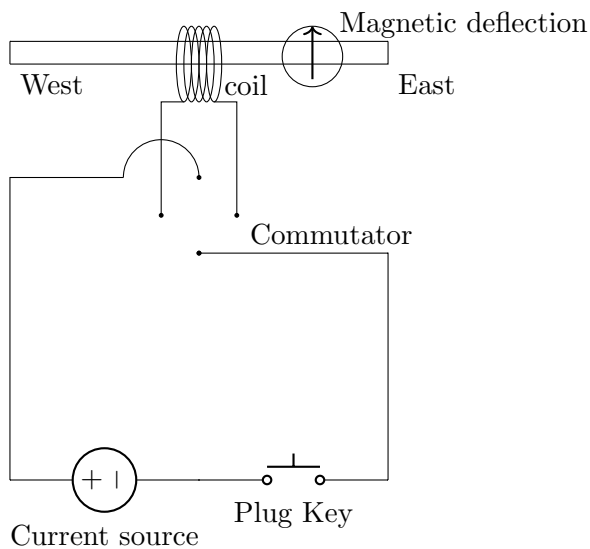

Figure 8.1: Experimental setup for the measurement of field along the axis of a current carrying coil.
1. Use the given compass box to find the east and west directions. Now the plane of the circular coil is said to be parallel to the magnetic meridian. (orient the apparatus such that the coil plane is in north-south plane and the axis of circular coil along east-west direction) as shown in the figure 8.1.
4. Now switch on the power supply and adjust the current(0.5A) so that the deflection is about  $60^\circ - 70^\circ$ , note down the deflection on the compass box it as ( $\theta_1$  and  $\theta_2$ ). Figure 8.1: Experimental setup for the measurement of field along the axis of a current carrying coil.